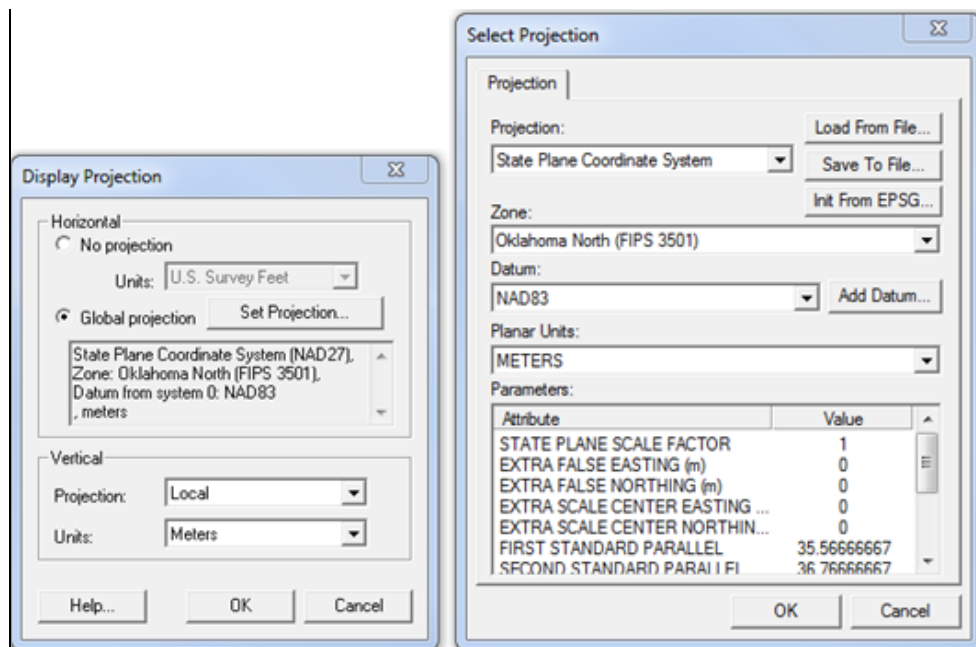

Figure 1 Display Properties and Select Projection dialogs
3. Set the *Horizontal* component to use a *Global projection*. This will bring up the *Select Projection* dialog (see Figure 1).